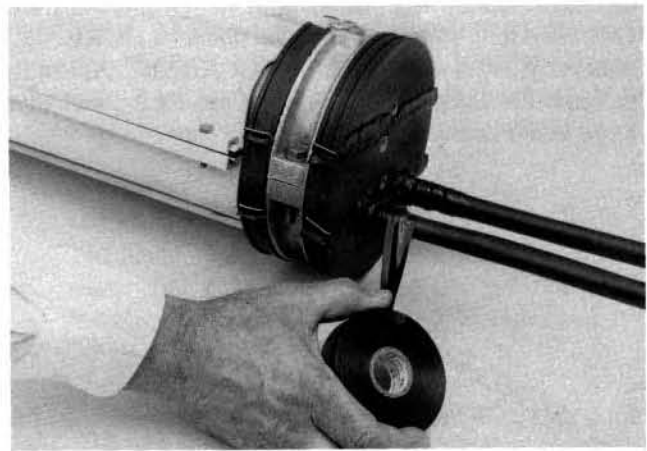

Figure 44
22.01 Apply two wraps of vinyl tape over exposed LOCK-TAPE™ Sealant on cables. Figure 44.